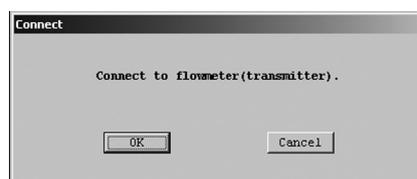

Fig.8
- ⑥ At the message box as like the one in Fig. 8, click "OK" button and the connection process begins.